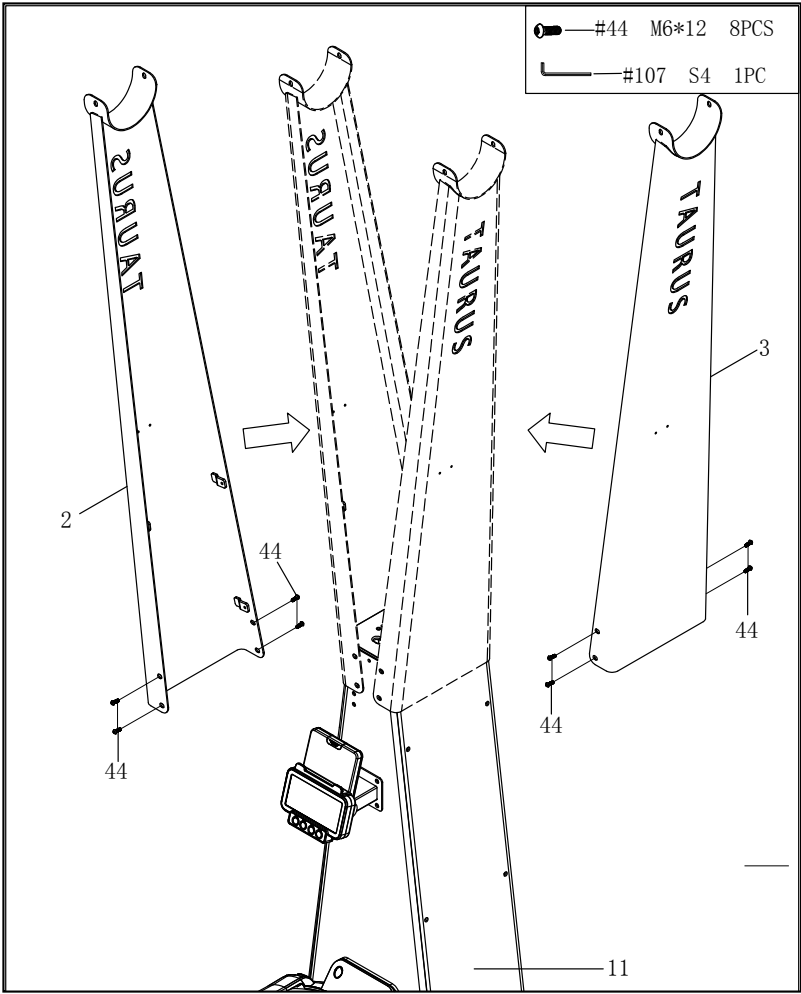

Fig. 2
4. Fix the right vertical plate (3) to the main frame (11) with four bolts (Fig. 2).